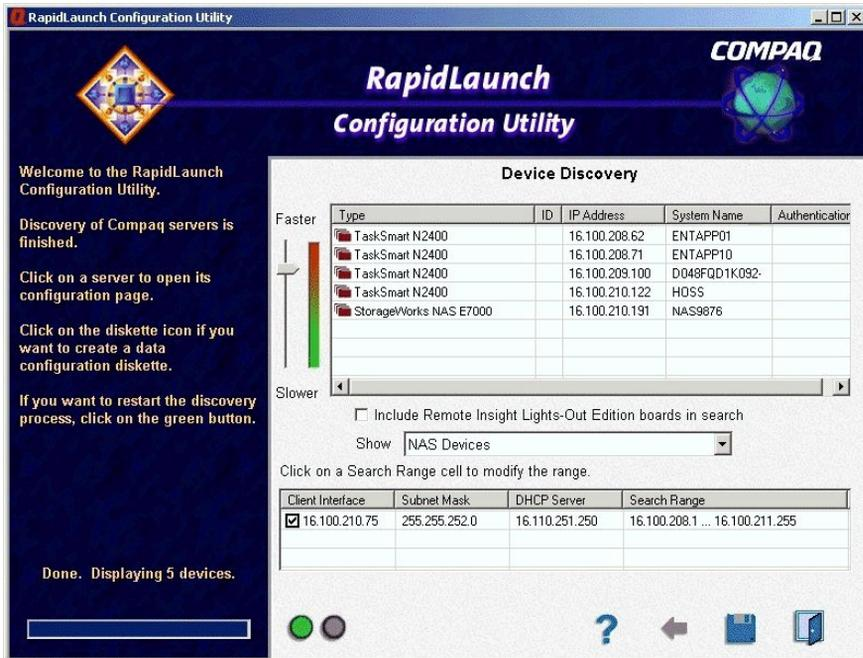

Figure 3-3: RapidLaunch device discovery screen
8. All the NAS devices found on the network are displayed as shown in Figure 3-3. The NAS device will be displayed in the device discovery portion of the screen as an unconfigured device. It may take several minutes for the NAS device to be found on the network.